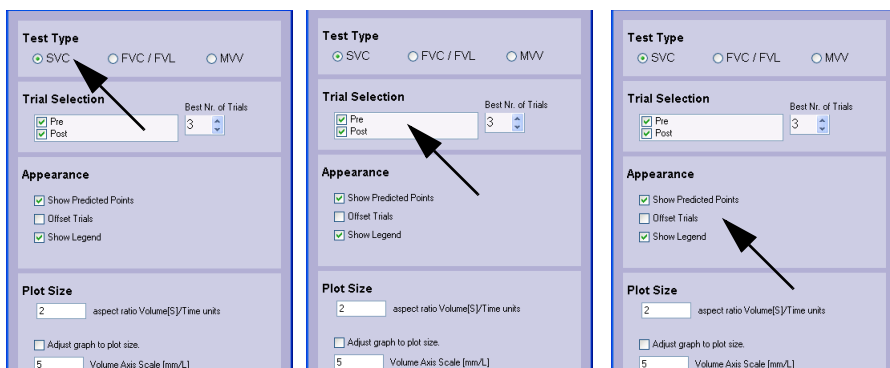

Fig. 12-10: Spiro Graph Configuration window
- Click **Run Designer**. The Spiro Graph Configuration window will be displayed (Fig. 12-10):.